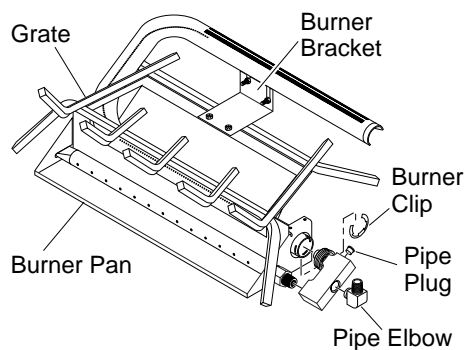

Figure 9 - Installing Burner
7. Place the grate assembly over the burner pan. Install the rear burner bracket onto the grate with the 2 black Phillips head #10 screws provided. Do not tighten at this time (see Figure 9).
8. Install the "U" burner from the left side with the open end in the front (see Figure 9). Hold the rear of the burner higher than the bracket. Slide the burner over the air restrictor fitting. Lower the rear of the burner into the slots on the burner bracket. Install the burner clip and tighten the nuts and screws.